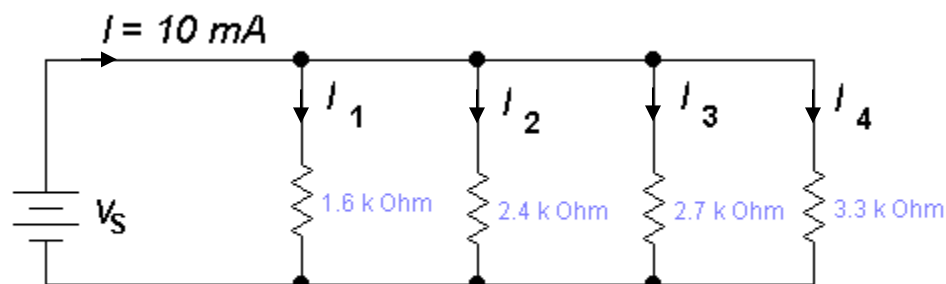

Figure 12-1
14. For the circuit in Figure 12-1, use the Current Divider Theorem to calculate the nominal values for the currents I_1 , I_2 , I_3 and I_4 record them in Table 12-1.